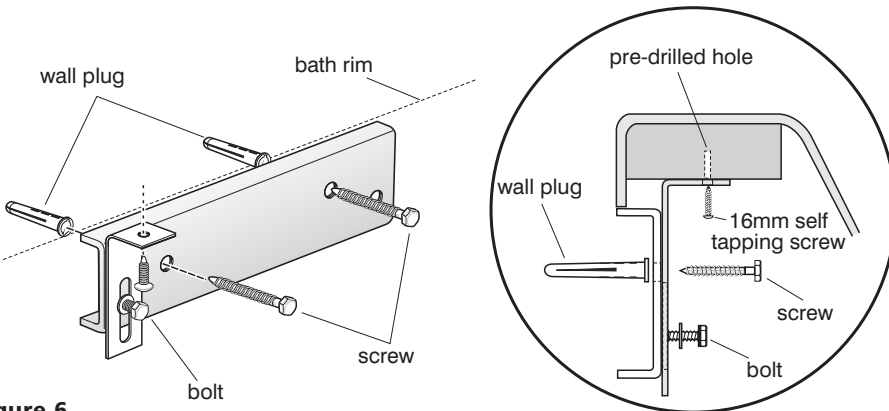

Figure 6
7. Pre fit front panel ensuring that the ends of the panel are vertical. Mark a line along the front of the panel on the floor. Remove panel and fix the plastic panel clips onto the floor/wall(s) (Figure 6). The front of the clip at the floor should be 3mm back from the marked line.